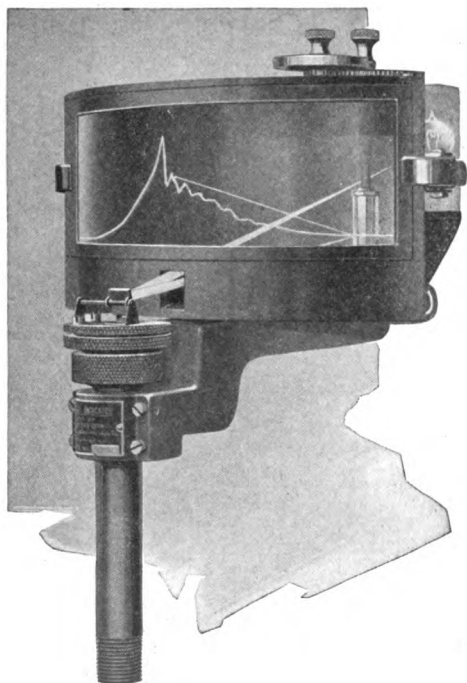

Fig. 57b. Midgley Optical System
*Optical System.* The function of the optical system, Fig. 57b, is to provide means for indicating either the pressure-volume or the pressure-time relations within the cylinder by making use of a beam of light. This system consists of a light bulb (used as a